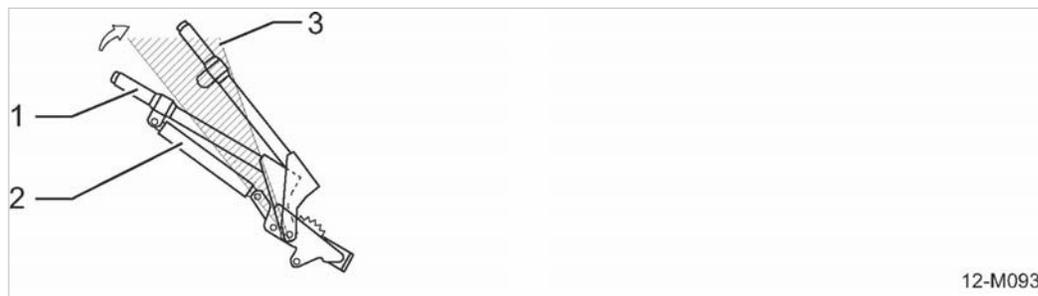

Fig. 68 Actuating the parking brake with gas spring assistance
4. Pull on the parking brake past the dead point zone (see figure 68).